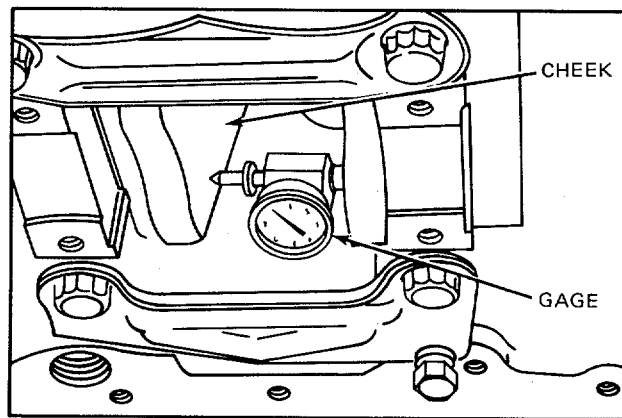

Figure 10. Crankshaft Distortion Measuring Gage Mounted on Crankshaft
c. Install a gage (Starrett Co. No. 696 dial gage, or equivalent) in the center punch holes in the cheek of each counterweight as shown in Fig. 10.